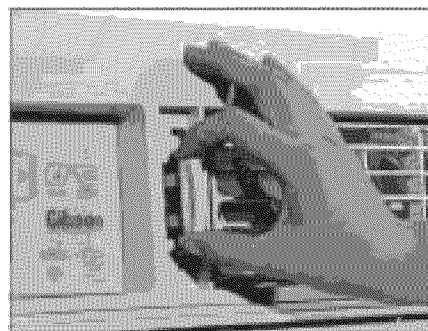

Fig. 2 (FRESH AIR)
- Draw fresh air into the room - Vent Open (see Fig. 2)